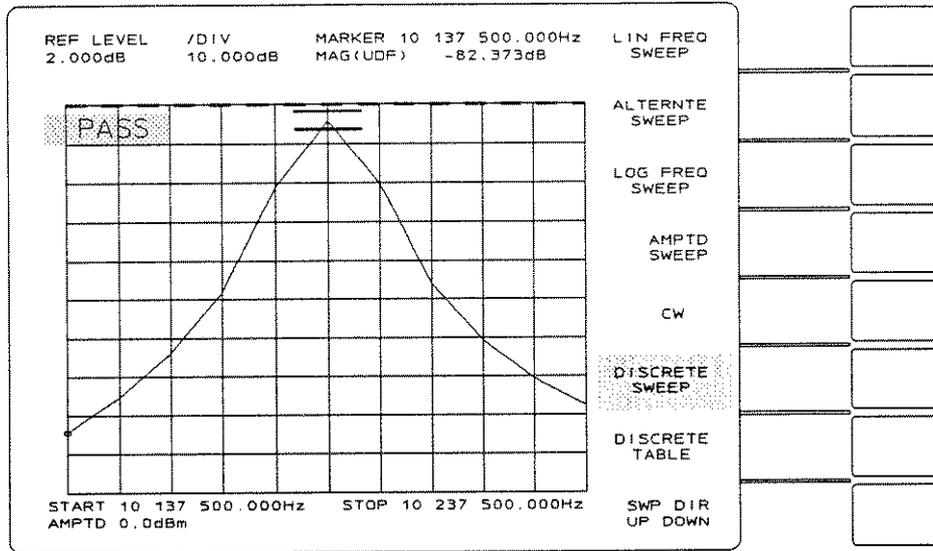

Figure 2-31B. Discrete Sweep Display
5. Press [RETURN] and observe the discrete sweep display as shown in figure 2-31B.